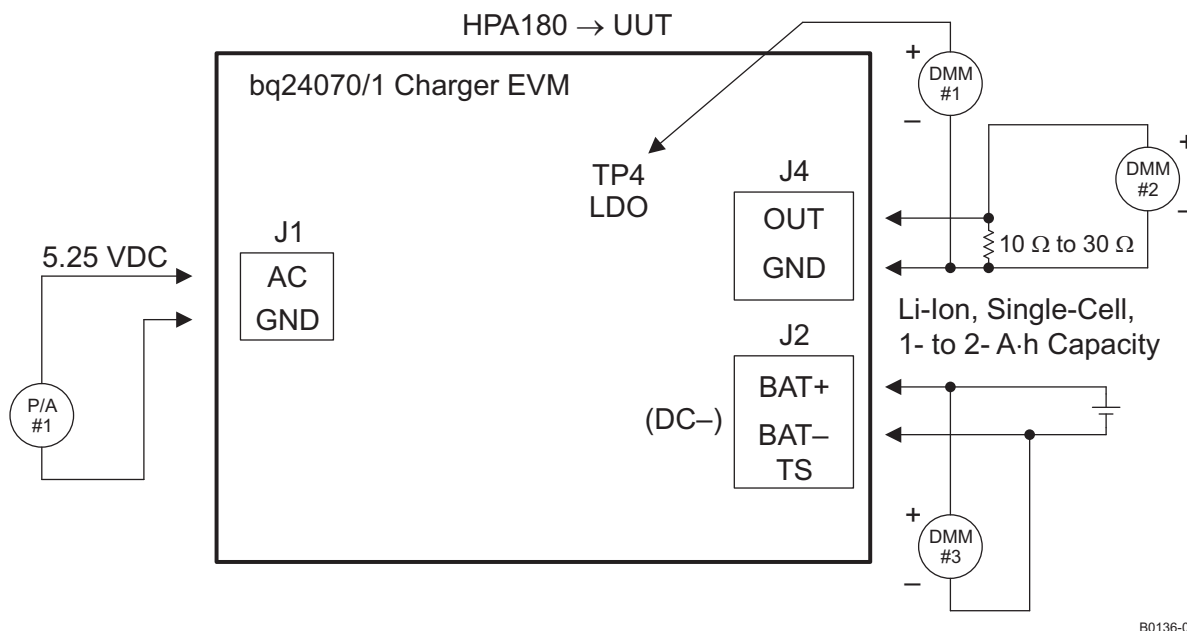

Figure 1. Test Diagram
- Connect the DMMs as shown in Figure 1.